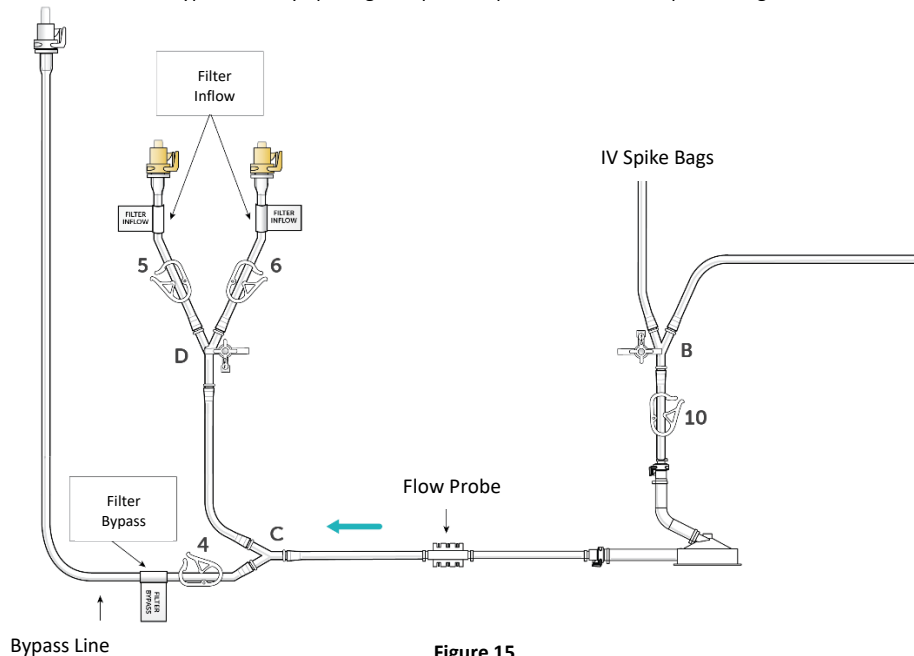

Figure 15
- (a) Prime the pump head, filter inflow and bypass lines by opening clamp 10, stopcock "D", and clamp 4, see Figure 15.